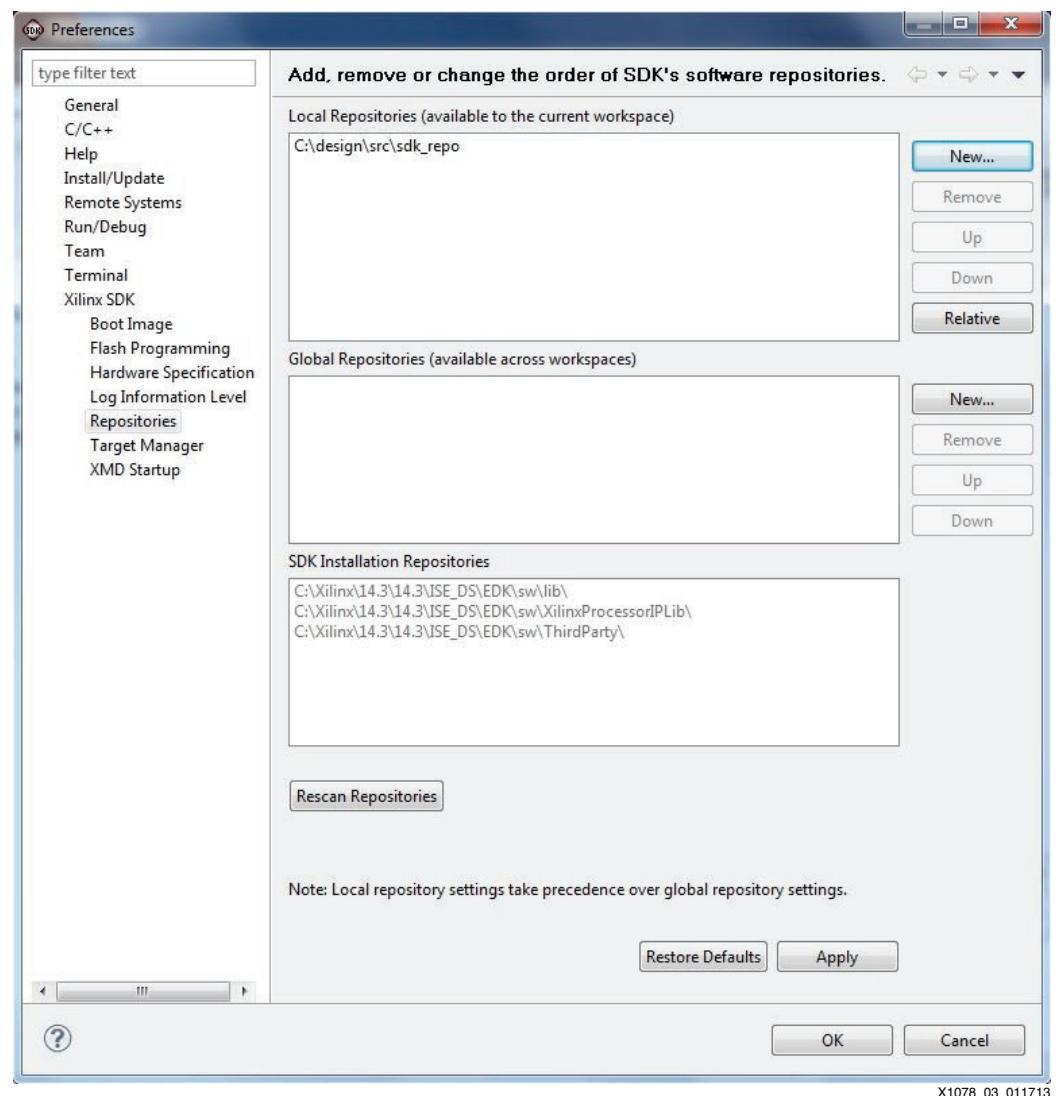

Figure 3: Select Repository
2. Point SDK to the included repository that contains the modified standalone BSP and modified FSBL (Figure 3):